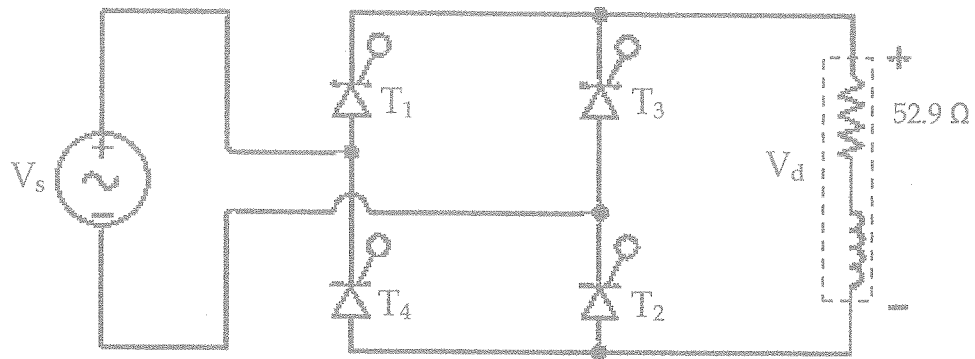

Figure Q1: Fully controlled rectifier
- b) A fully controlled rectifier shown in Figure Q1 has an input voltage of 230 V supplying DC power to a 52.9Ω resistive and inductive load. The Converter delivers 800 W DC output to load.